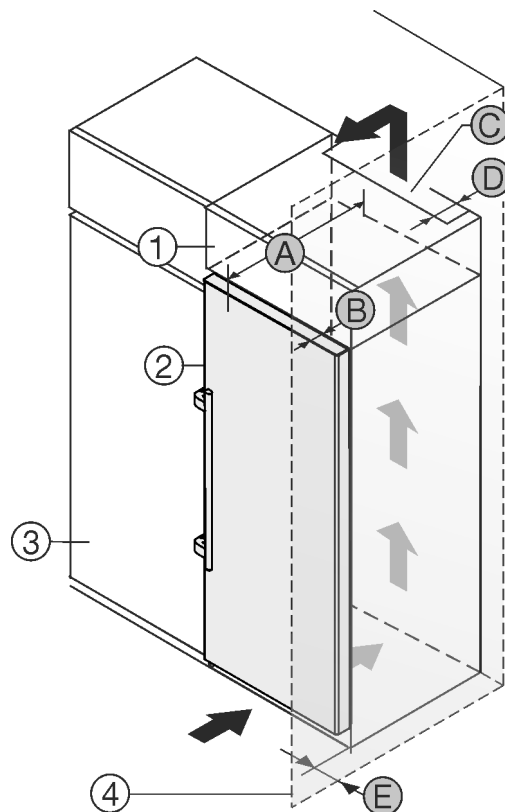

Fig. 2
Set up the appliance directly next to the kitchen cabinet Fig. 2 (3).*
There must be a ventilation shaft at the depth Fig. 2 (D) of the back of the top cupboard over the entire width of the top cupboard.*
The cross section of the ventilation gap Fig. 2 (C) must be maintained below the ceiling.*
If the appliance is installed with the hinges next to a wall Fig. 2 (4), the distance between the appliance and the wall must be at least 57 mm (2.24 in). This is how far the handle protrudes when the door is open.*
In order to be able to fully open the door, the appliance must protrude by the depth Fig. 2 (B) of the door from the front of the kitchen cabinet. Regardless of the depth of the kitchen cabinets Fig. 2 (3) and use of wall spaces, the appliance can protrude further.*